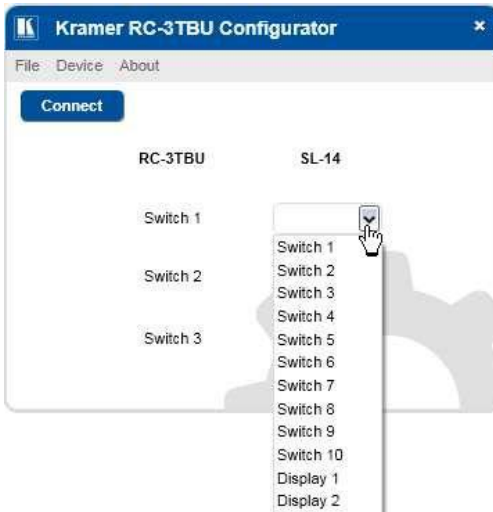

Figure 10: RC-3TBU Configurator Software Switch Drop-down List
7. Click to open one of the switch drop-down lists as shown in Figure 10.